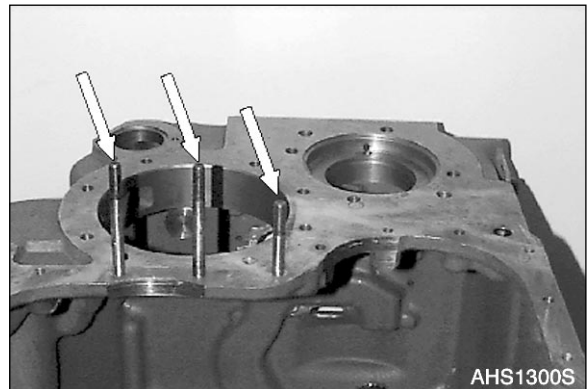

Figure 170
1. Install studs (Figure 170).